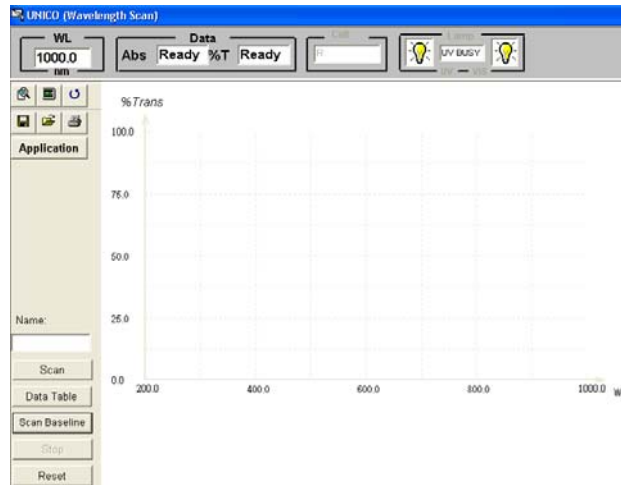
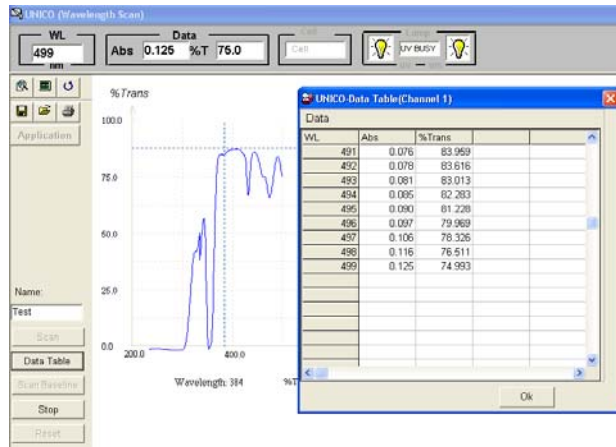
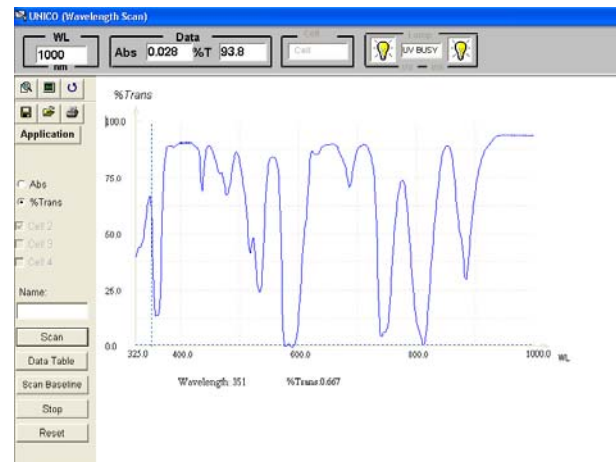

Figure-38 Scan Baseline Complete
Figure-39 Scanning Sample
Figure-40 Sample Scan Complete
Step 6: **Sample Scan.** After the Baseline Scan is finished (Figure-38), remove the reference and insert the sample into the sample holder. Click **Scan** button at the **Scan Button Group** tool bar to start scan sample. Figure-39 and Figure-40 shows the sample scan process, the data table, and the final graph of the scanning result.